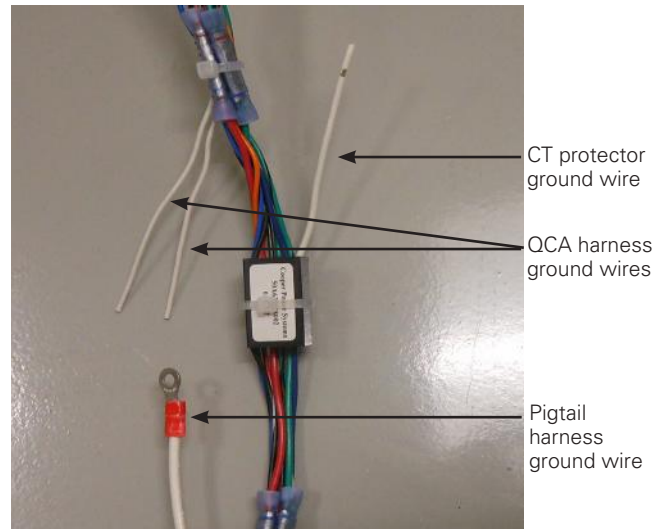

Figure 38. Identifying and stripping ground wires.
11. Identify the white ground wire from the pigtail harness (Item 2) shown in Figure 38. Cut the ring terminal from the end of the ground wire and strip 1/4" of insulation from the wire.
12. Identify the white ground wire leads in the QCA harness (Item 1) shown in Figure 38. Strip 1/4" of insulation from the white ground wire of the wire harness.
13. Identify the white wire connected to the CT protector shown in Figure 38; the protector is part of the QCA harness (Item 1). Strip 1/4" of insulation from the CT protector ground wire.